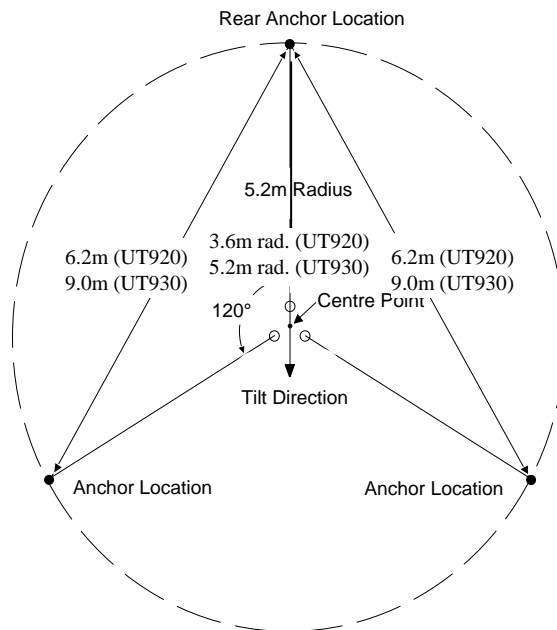
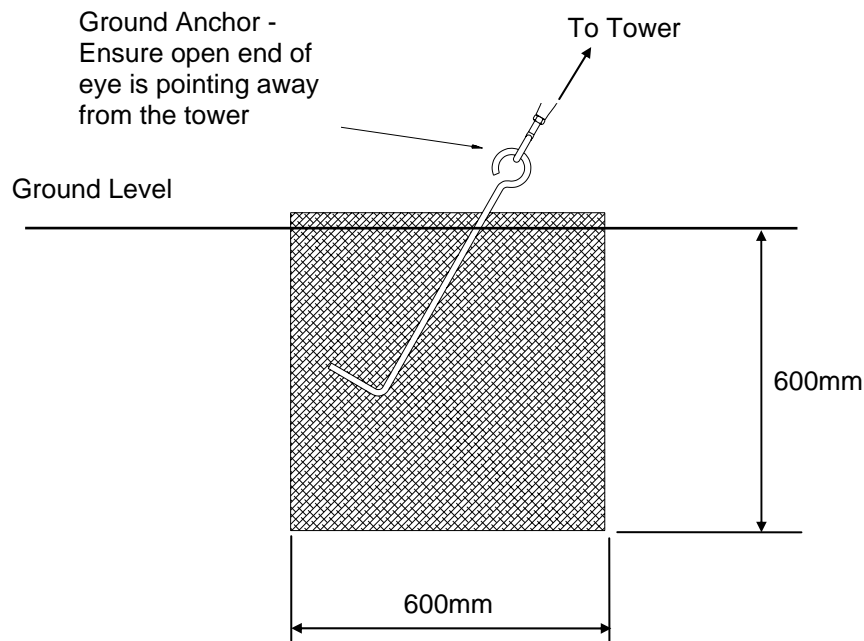

Figure 1-5 Top View of Base and Optional Ground Anchor Layout
Figure 1-6 Ground Anchor Installation
Figure 1-5 shows the layout of the guy anchors in relationship to the tower base. To mark the positions of the guy anchors:
4. From the centre point, walk in the opposite direction and drive a stake into the ground on the scribed line (see Figure 1-5). This marks the position of the rear leg anchor.
Locate the three anchor points (see Figure 1-5) and dig three holes 600mm square by 600mm deep. Fill the holes with concrete and install the eyebolts as shown in Figure 1-6.